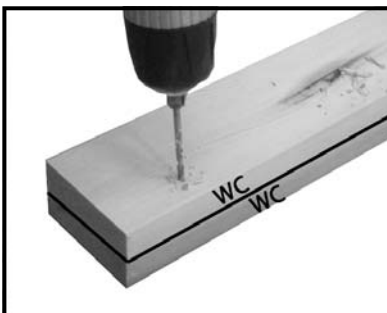

Fig A3
10. Place the other **WC** part underneath and drill through both pieces with a 3mm drill (fig A3).